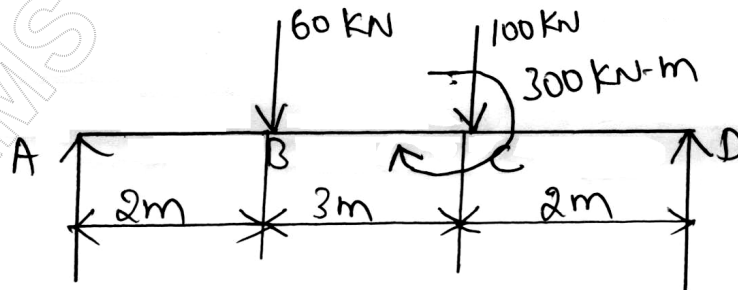

Fig Q5(b)
- b. Draw the shear force and Bending moment diagram for the simply supported Beam subjected to the loads as shown in Fig Q5(b), also find the location of point of contraflexure.